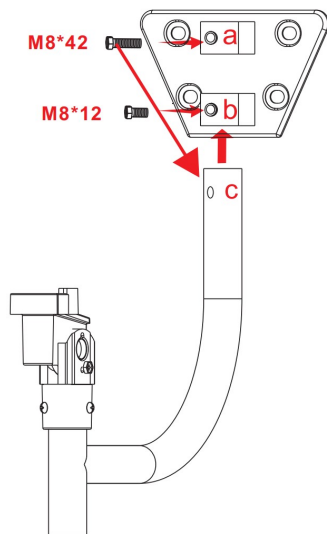

Figure 2
2. Slide the Pole into mounting bracket. Secure it with the 2 fixing bolts provided. Make sure the M8*12 bolt is fixing on Hole b and M8*42 bolt is passing through Hole a and Hole c at the same time. (Figure 2)
4. Loosen the Blade Screw, slide the Fan Blade onto the Motor Shaft as far as it will go. Replace the Blade Screw into the slot on the Motor Shaft and tighten clockwise. Ensure that the flat surface of the Motor Shaft is aligned with the Blade Screw. (Figure 2).